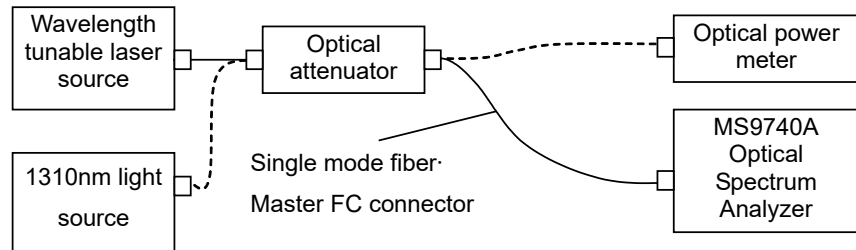

Figure 7.2.2-1 Level Accuracy Test Setup
1. Connect the MS9740A and the wavelength tunable laser source as shown in Figure 7.2.2-1.